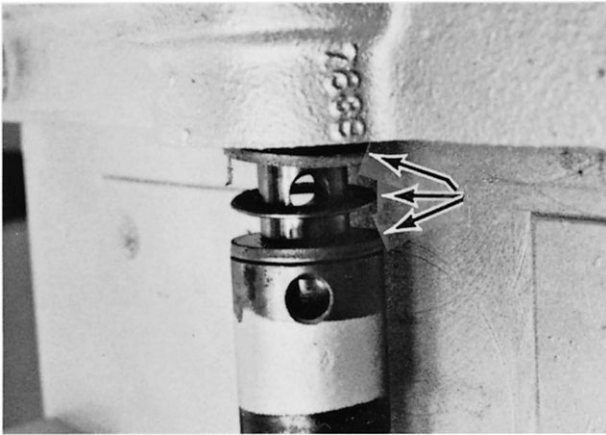

Fig. 12-10
G. The thrust bearing (Fig. 12-10) can be removed from the top of the bowl lift screw.